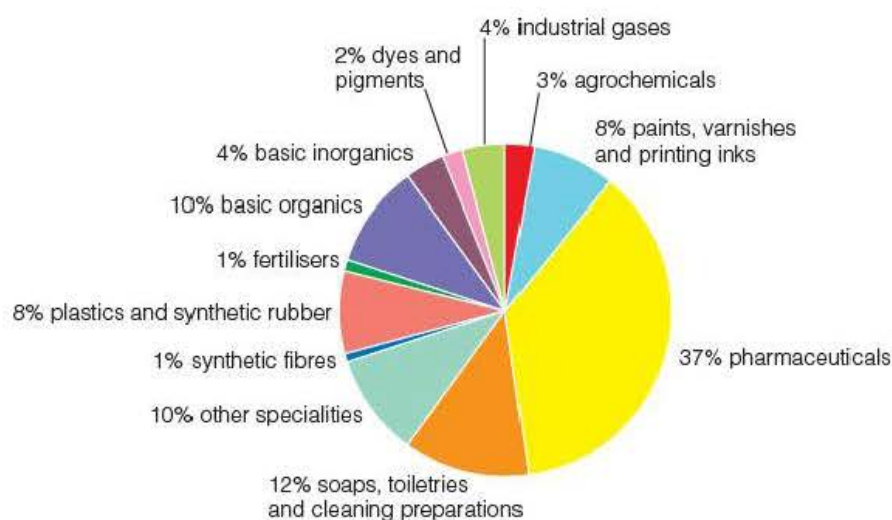

Figure 18.3 ▲
- 2 Pharmaceuticals are speciality chemicals, not bulk chemicals. Suggest reasons why the pharmaceutical sector is so large in Figure 18.3.